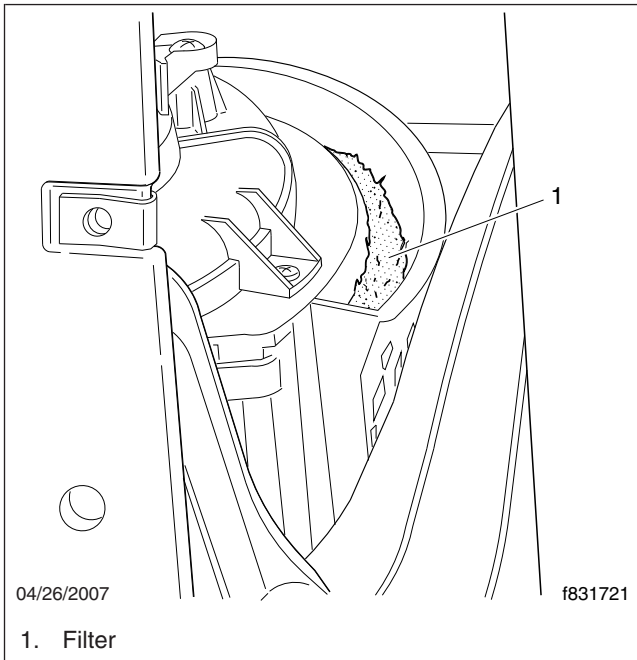
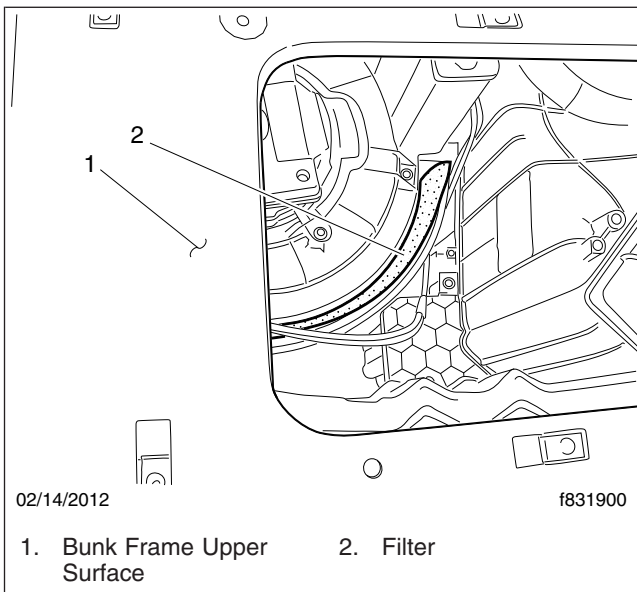

Fig. 7, Removing the Filter, 60- and 72-inch Sleepers
Fig. 8, Removing the Filter, 48-inch Sleeper
3. Lift the filter out of the slot. See Fig. 7 for 60- and 72-inch sleepers, or Fig. 8 for 48-inch sleepers.